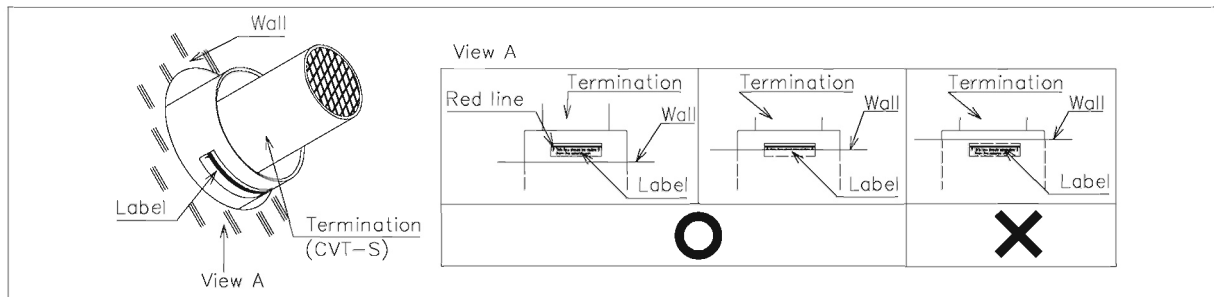

Fig.1 Position of the label with red line
1. Make sure the label with red line on the air intake of CVT-S (termination) should be downward, so that the red line of the label can be seen from the exterior wall. (See Fig. 1)